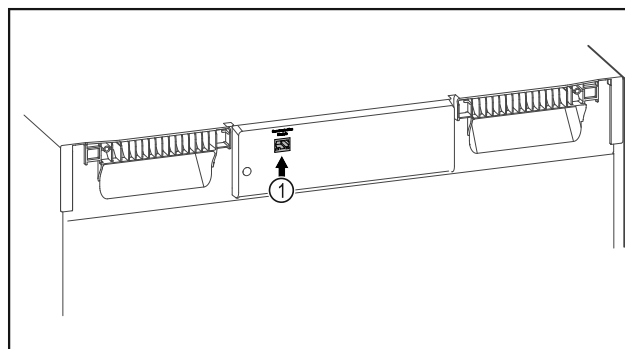

Fig. 131
- SmartModule Fig. 131 (1) is in use.